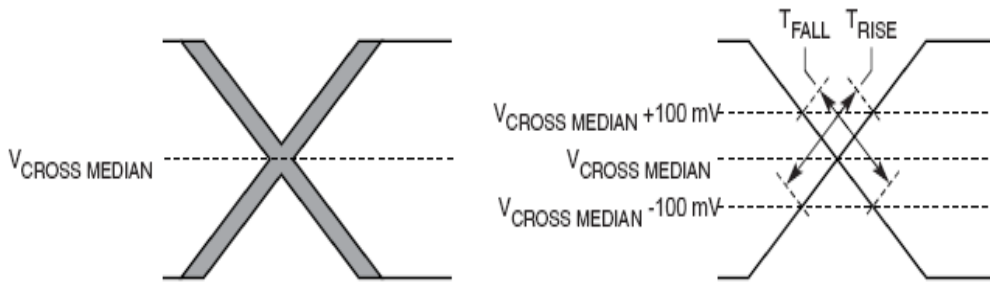

Figure 49. Single-Ended Measurement Points for Rise and Fall Time Matching
6. Matching applies to rising edge for $\text{SD}_n\text{_REF_CLK}$ and falling edge rate for $\overline{\text{SD}_n\text{_REF_CLK}}$. It is measured using a 200 mV window centered on the median cross point where $\text{SD}_n\text{_REF_CLK}$ rising meets $\overline{\text{SD}_n\text{_REF_CLK}}$ falling. The median cross point is used to calculate the voltage thresholds that the oscilloscope uses for the edge rate calculations. The rise edge rate of $\text{SD}_n\text{_REF_CLK}$ should be compared to the fall edge rate of $\overline{\text{SD}_n\text{_REF_CLK}}$, the maximum allowed difference should not exceed 20% of the slowest edge rate. See Figure 49.